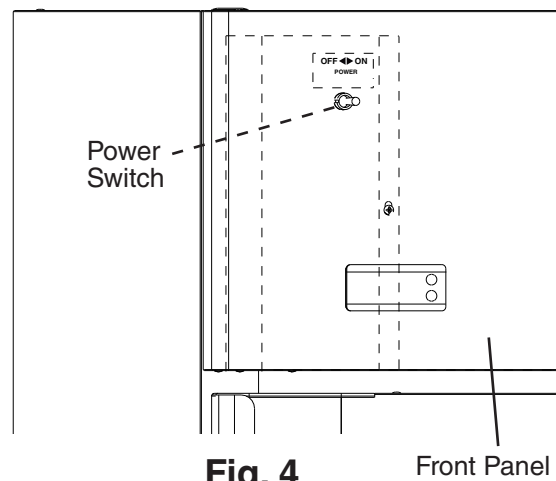

Fig. 4
- 1) Reach over the front panel to access the power switch—located on the front of the control box. See Fig. 4. Make sure the power switch is in the "OFF" position.